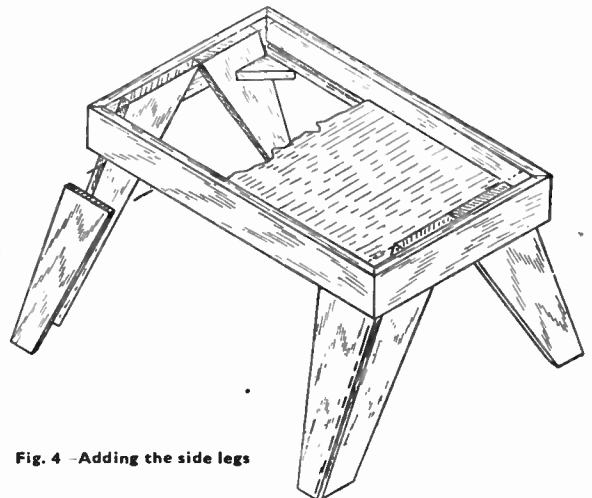

Fig. 4—Adding the side legs
It now remains to add the side legs, as shown in Fig. 4. Cut out accurately and then glue and pin in place, making sure that each joint is a good one. When dry, the whole assembly can be glasspapered down, rounding off the corners of the 'L-shaped' legs slightly for improved appearance. Glasspaper and round the top edges of the frame. After staining and polishing, a suitable padded seat can be added. (325)